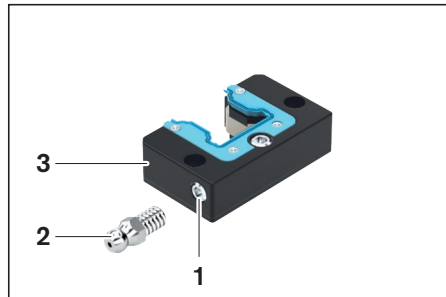
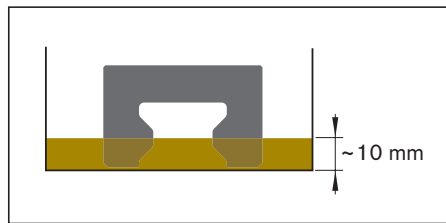

Figure 1
Figure 2
- ▶ Remove the set screw from the lubrication hole (Fig. 1, item 1) and keep for later use.
- ▶ Screw in lube nipple (2).
- ▶ Lie the front lube unit (3) down flat, fill with quantity of oil as per table 1, and leave it to lie for around 36 hours.
- ▶ For size 20 low profile: Stand the front lube units in 10 mm of oil for approx. 36 hours (see fig. 2).
- ▶ The front lube unit size 20 low profile is **not** refillable via the lube connection (see figure 2).